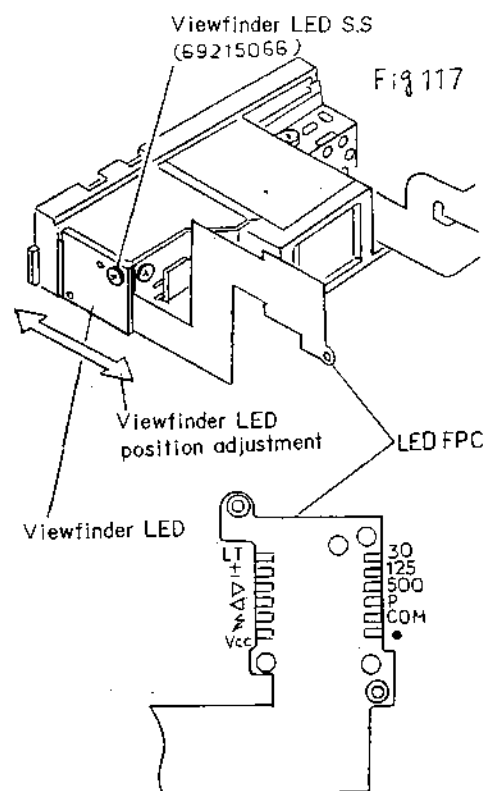

Fig 118
- 1) Solder the Lead Wire to the pattern of COM of the LED FPC (See Fig.118).